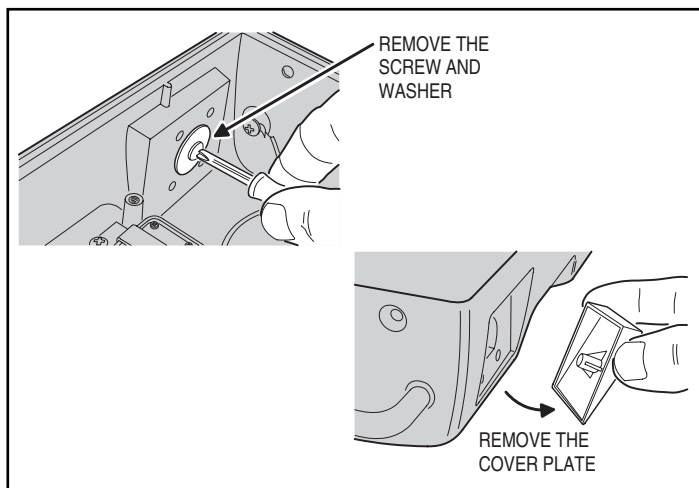

Figure 17. Removing the Keyswitch Hole Access Plate
2. Remove the screw and washer that retain the keyswitch hole access plate (see Figure 17).